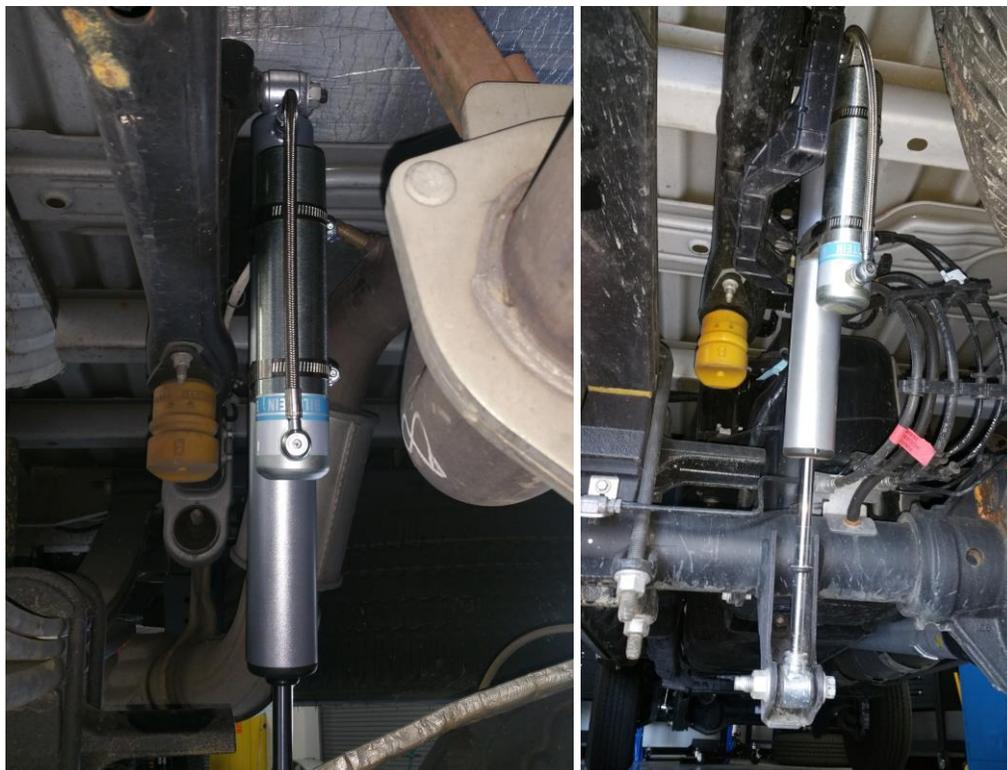

Figure 3. Rear Driver Side
- C. Position each reservoir as depicted in Figure 3 (Note: Figure 3 shows the driver side, the passenger side is a mirror image with the reservoir placed towards the front end of the vehicle).